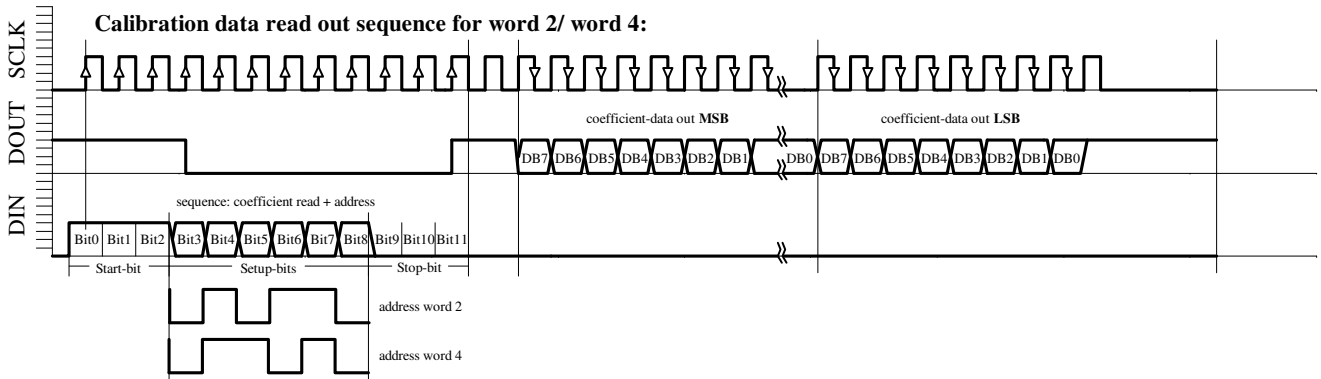

Fig. 6d: W2, W4 READING sequence
- Calibration data READOUT sequence for Word2 (Figure 6d)
- Calibration data READOUT sequence for Word4 (Figure 6d)